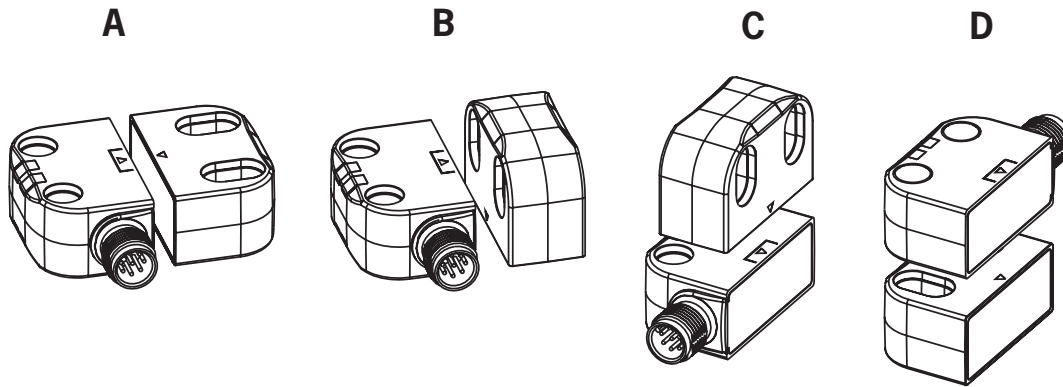
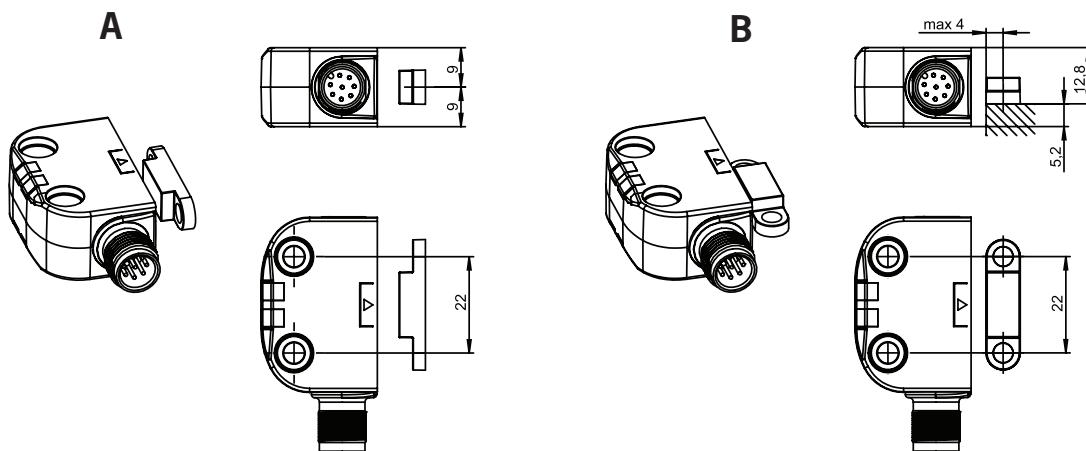

Fig. 1: Permissible installation positions for actuator CES-A-BTN-C07-...: Observe direction of arrow on the device.
Fig. 2: Permissible installation positions for actuator A-C11-01-...
- › Observe permissible installation positions, see Fig. 1, page 11 and Fig. 2, page 11.